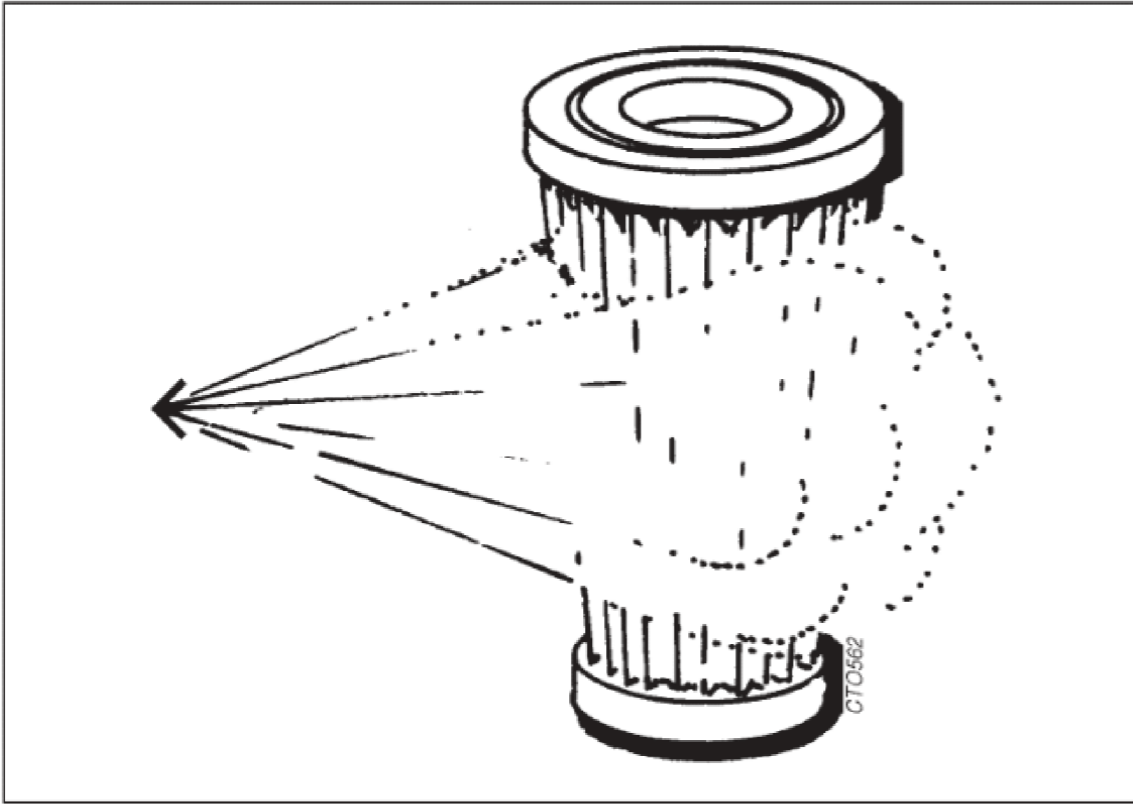

Fig. 12
**Regular service****Air filter (fig. 12)**